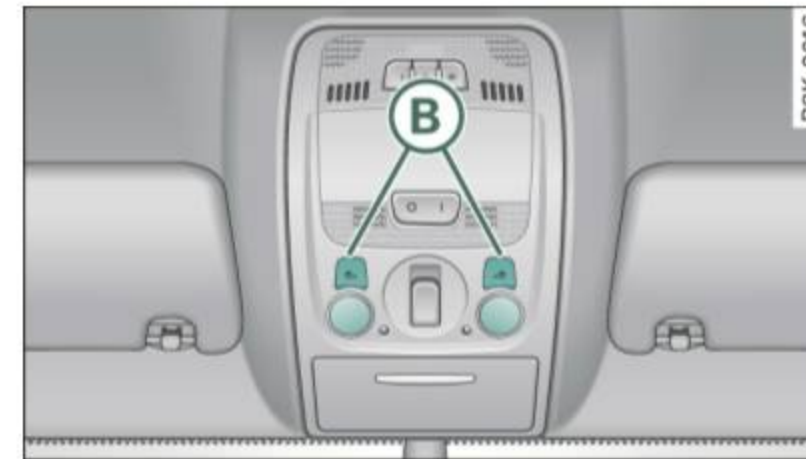

Fig. 62 Headliner:
- Press one of the switches (B) ⇒ page 67, fig. 62 to turn the right or left reading light on or off.